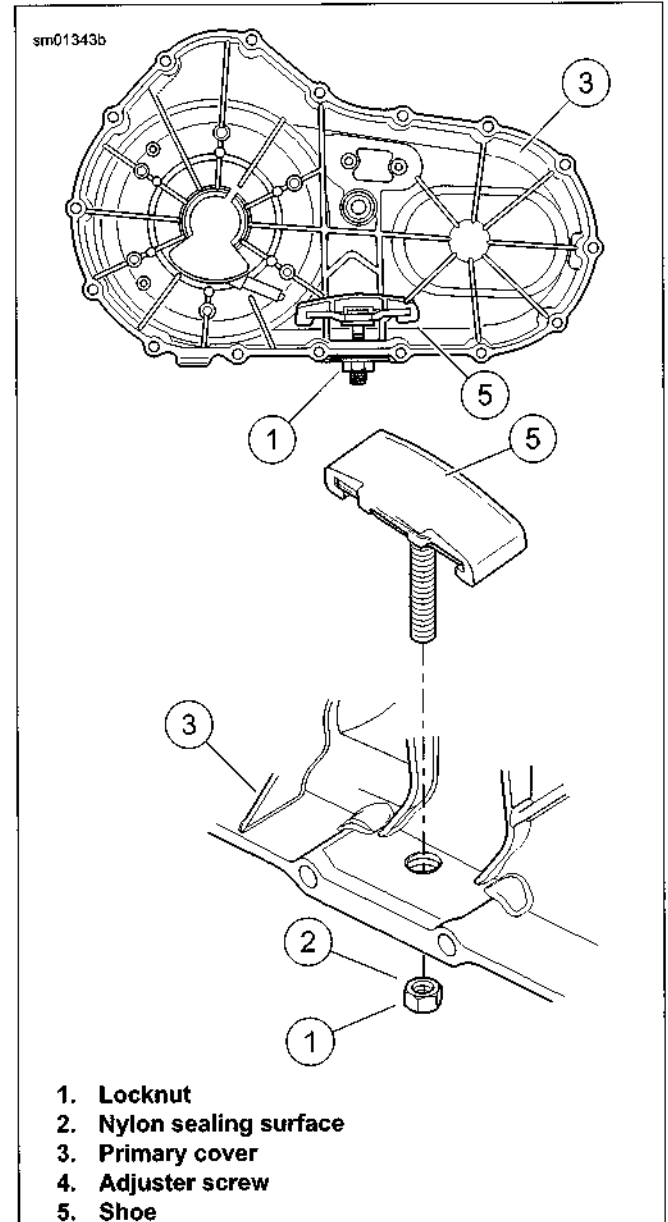

Figure 5-7. Primary Chain Adjuster Assembly
1. See Figure 5-7. Remove locknut (1) from adjuster screw (4). Turn adjuster screw out of threaded boss in primary cover (3).
2. Inspect adjuster shoe (5). Replace or repair as necessary.
3. Position adjuster inside primary cover (3) with closed side of shoe against cover. Thread adjuster screw (4) all the way into threaded boss at bottom of cover.